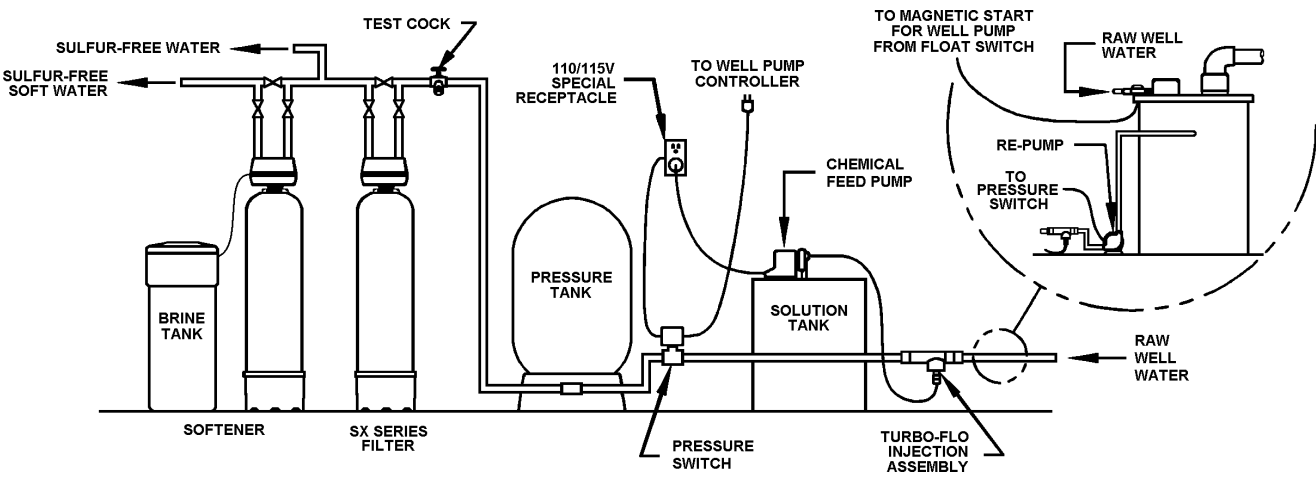

Figure 1. STANDARD INSTALLATION
- (1) Locate as close as possible to water supply source.
- (2) Locate as close as possible to a floor or laundry tub drain.
- (3) Locate in correct relationship to other water conditioning equipment (Figure 1, 2 or 3 in Section 3).
- (4) Locate the filter in the supply line BEFORE the water heater. Temperatures above 100°F (38°C) will damage the filter and void the factory warranty.
- (5) Do NOT install the filter in a location where freezing temperatures occur. Freezing may cause permanent damage and will also void the factory warranty.
- (6) Allow sufficient space around the installation for easy servicing.
- (7) Provide a non-switched, 110/120V, 60Hz power source for the control valve (not feeder pump).
PROPER INSTALLATION SEQUENCE OF WATER CONDITIONING EQUIPMENT IS VERY IMPORTANT. REFER TO THE DIAGRAM (Figure 1, 2 or 3) FOR YOUR PARTICULAR WATER SUPPLY. IT IS RECOMMENDED THAT ALL PIPING PRIOR TO THE SUL-X FILTER BE PVC OR OTHER APPROVED PLASTIC (THE CORROSIVENESS OF HYDROGEN SULFIDE ATTACKS AND DESTROYS COPPER OR GALVANIZED PIPE AND PRESSURE TANKS).